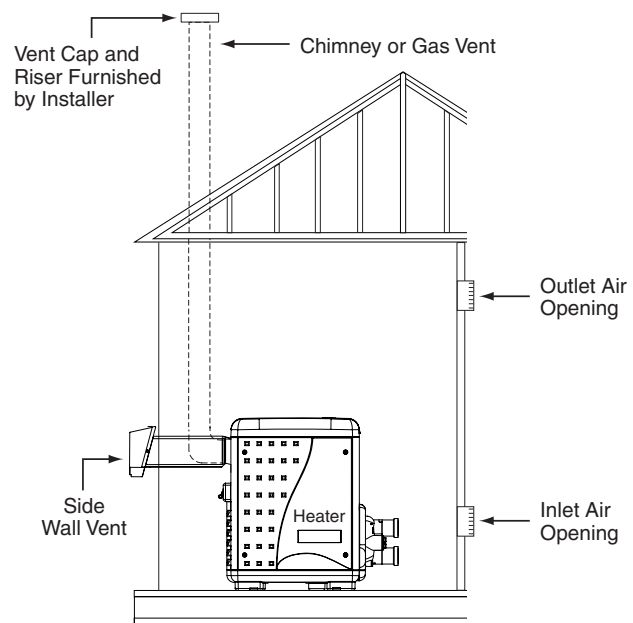

Figure 14.
HORIZONTAL OR VERTICAL VENTING - POSITIVE PRESSURE (See Figures 14, 15, and 16)**(Category III)**
6. **Vent Termination – Vertical** (See Figures 14 and 15), for height of vent termination above the roof. Use an "Approved" vent terminal specified by local and national codes and your manufacturer's instructions. A roof termination must be vertical. In Canada, the Vent Cap location shall have a minimum clearance of 4 feet (1.2M) horizontally from electric meters, gas meters, regulators, and relief openings.